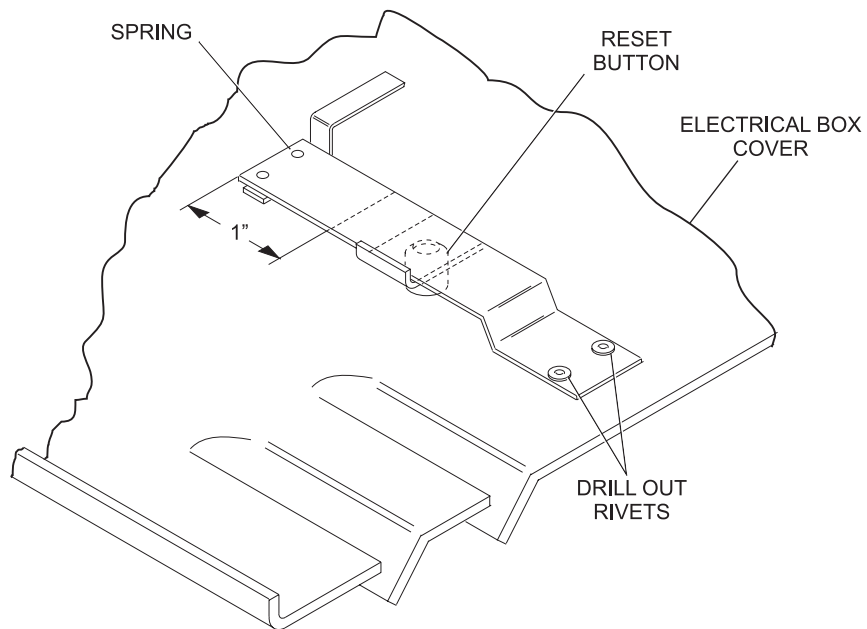

Figure 11
26. Before replacing the pinsetter electrical box cover, it will be necessary to make a modification. If the cover has a reset button and spring, it will be necessary to remove it by drilling out the rivets. The new relay's reset switch will stick through the hole in the cover. If there is no reset button, it will be necessary to cut a hole in the electrical box cover. Refer to *Figure 11*.
27. Slide the cover onto the electrical box and visually check to insure that the relay's reset button does not bind and works freely. It will be necessary to enlarge the hole in the cover to approximately 3/4" diameter. Refer to *Figure 11*.